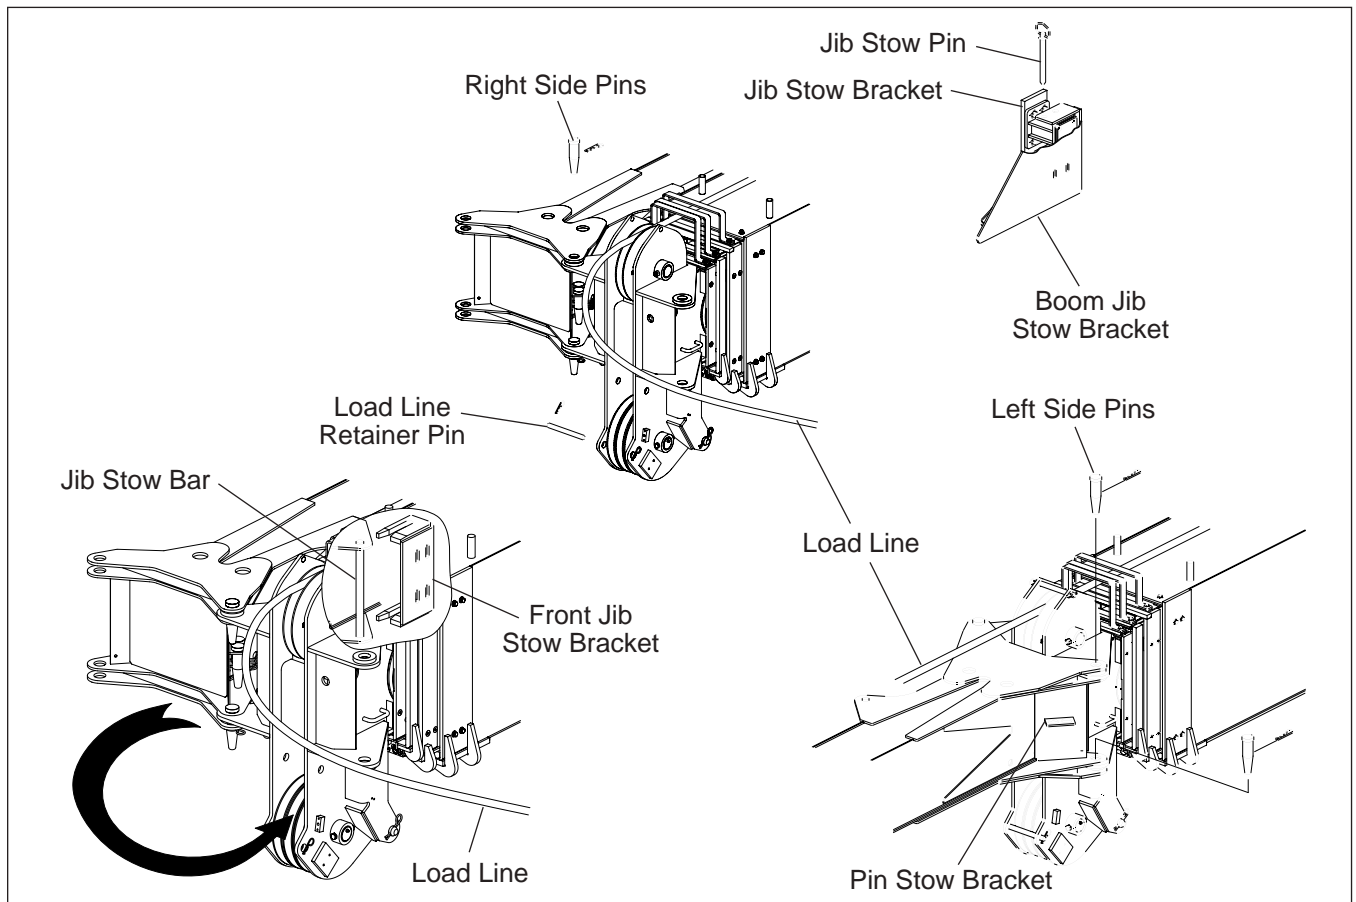

Figure 6.12 — Jib Installation and Stowing
4. Remove the load line from the boom tip sheave (refer to Figure 6.12). Replace the load line retaining pin.
9. Extend the boom approximately 15" (38.10 cm) so the jib stow bar is clear of the front jib stow bracket (refer to Figure 6.12).
11. Install two pins from the pin stow bracket to fasten the jib in place on the left side of the boom tip (refer to Figure 6.12). Install hairpin retainers in these pins.